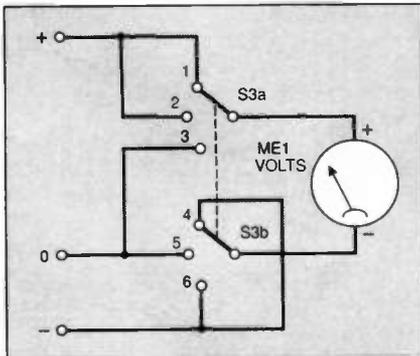

Fig.4. Switching at the output if a voltmeter is used.
The Supply can be built with or without an output voltage meter. If a meter is required this is wired as shown in Fig.4 – more details are given regarding this arrangement later in the text.
In the model, this optional meter readout is operated through a 4-pole 3-way miniature rotary switch (although only two poles are used) and the circuit is shown in Fig.4. The three switch positions then give us: (1) Single 20V output; (2) Positive dual output; and (3) Negative dual output respectively. Both switch and meter are separate from the circuit board.